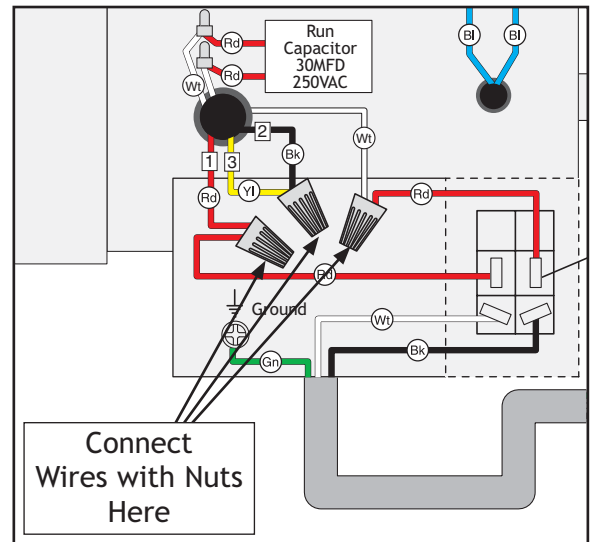

Figure 5. Model W1826 rewired to 240V.
3. Use wire nuts to connect the wires as indicated in **Figure 5**. Twist all three wire nuts onto their respective wires and wrap them with electrical tape so they will not come loose.